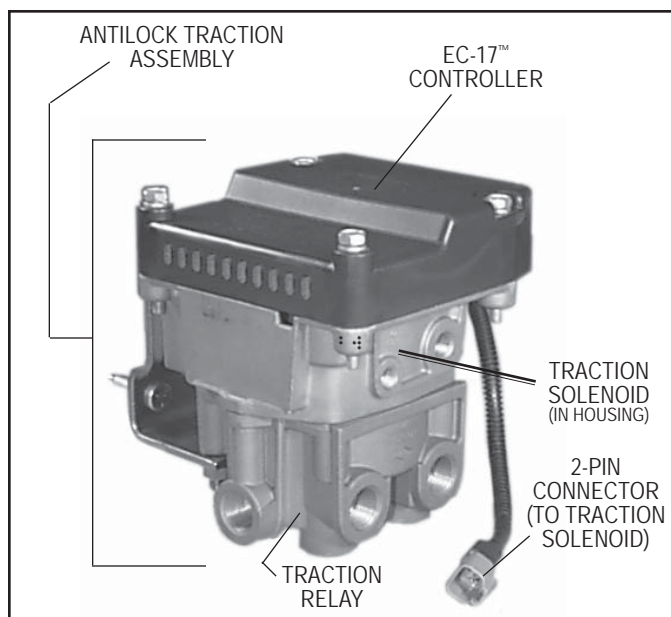

FIGURE 3 - EC-17™ CONTROLLER W/ANTILOCK TRACTION RELAY VALVE
Two electrical connectors, located in the controller housing opposite the diagnostic display (if so equipped), connect the EC-17™ controller to antilock and traction system components: one 30 pin and one 18 pin connector. The optional traction solenoid is linked to the 18 pin connector using a 2 pin Deutsch connector. The optional traction solenoid is located in the upper portion of the antilock traction relay valve assembly. (See Figure 3.)
relay function and replace the standard service relay on antilock equipped vehicles. In some instances the valves also provide specialized functions. When the EC-17™ controller is mounted on any of these valves, the result is a final assembly with its own model designation. Refer to the chart below and Figure 3.
- A connection to the **traction solenoid** (located in the upper portion of the antilock traction relay valve (see Figure 3) is provided via a 2 pin Deutsch connector.